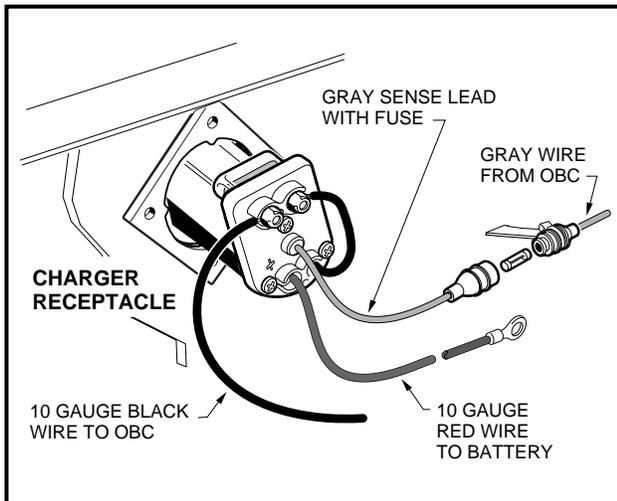

Figure 4-4 PowerDrive Charger Receptacle
- **PowerDrive System 48 and PowerDrive Plus vehicles (Figure 4-4, Page 4-6):**